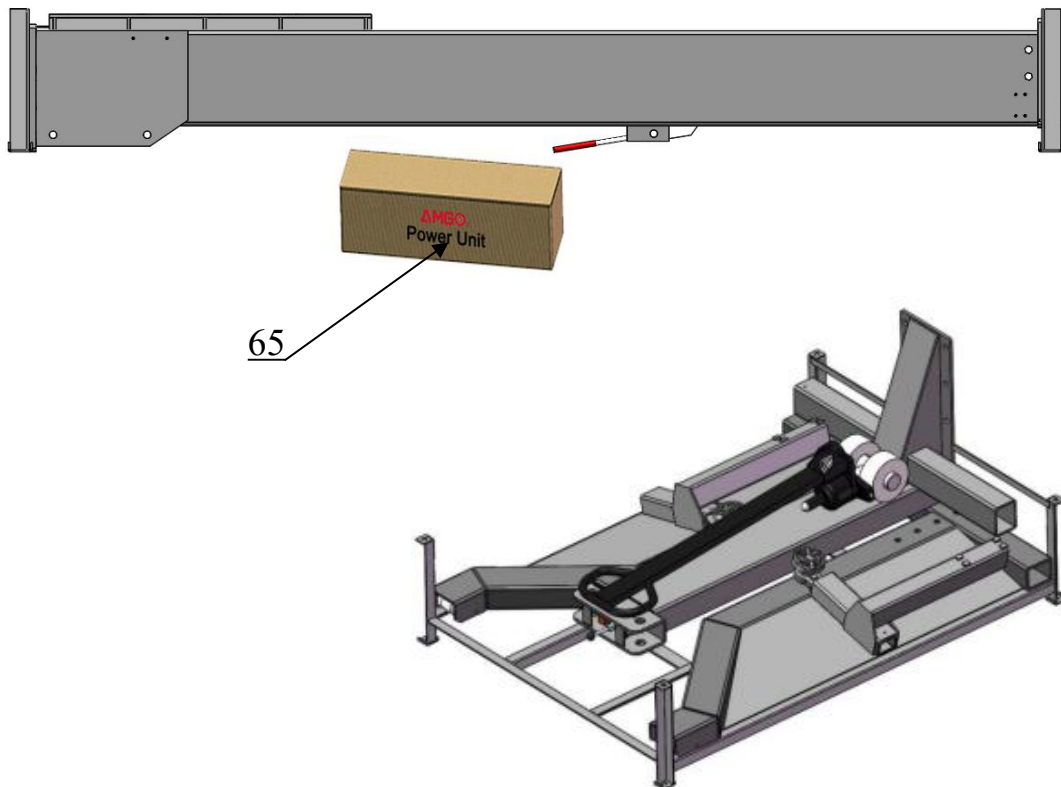

Fig.6
1. Received package (lift and hydraulic power unit) **(See Fig. 6)**